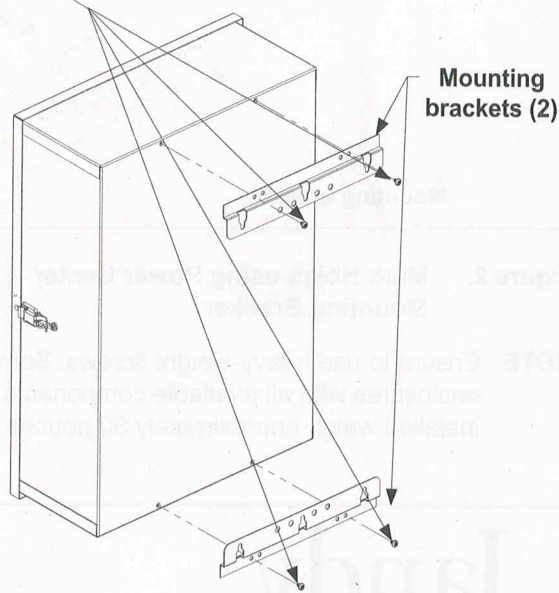

Figure 1. Enclosure Installation
2. The enclosure comes with two (2) full length, heavy duty mounting brackets fastened to the back of the enclosure during shipping. Remove the four (4) screws that are holding the two (2) brackets and the cardboard shipping cover in place (see Figure 1). Remove and discard the cardboard.